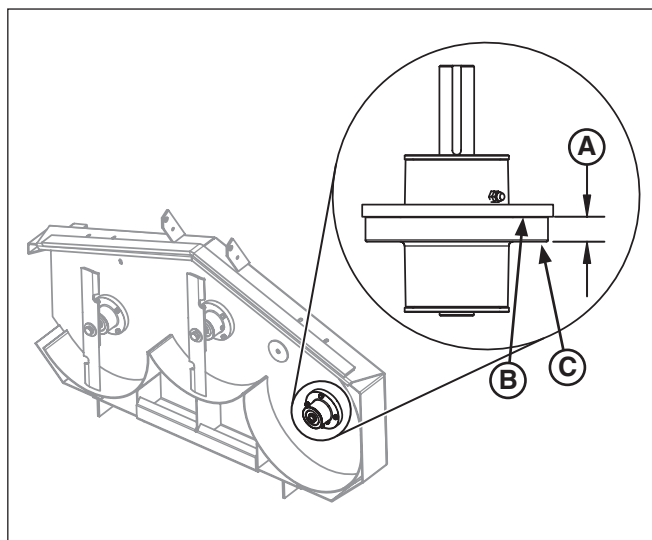

Figure 3. Measuring the Spindle in the Mower Deck
1. Measure (**A**, **Figure 3**) from the bottom of the mower deck (**B**) to the bottom of the spindle mounting ring (**C**) to determine the thickness of the spindle you are replacing. If the measurement equals approximately 1/2" (1,27 cm) you can install a replacement spindle without the spindle spacer ring. If the measurement equals approximately 11/16" (1,75 cm), install a 5412403A spindle spacer ring between bottom of the mower deck and the top of the 5061033 spindle mounting ring.